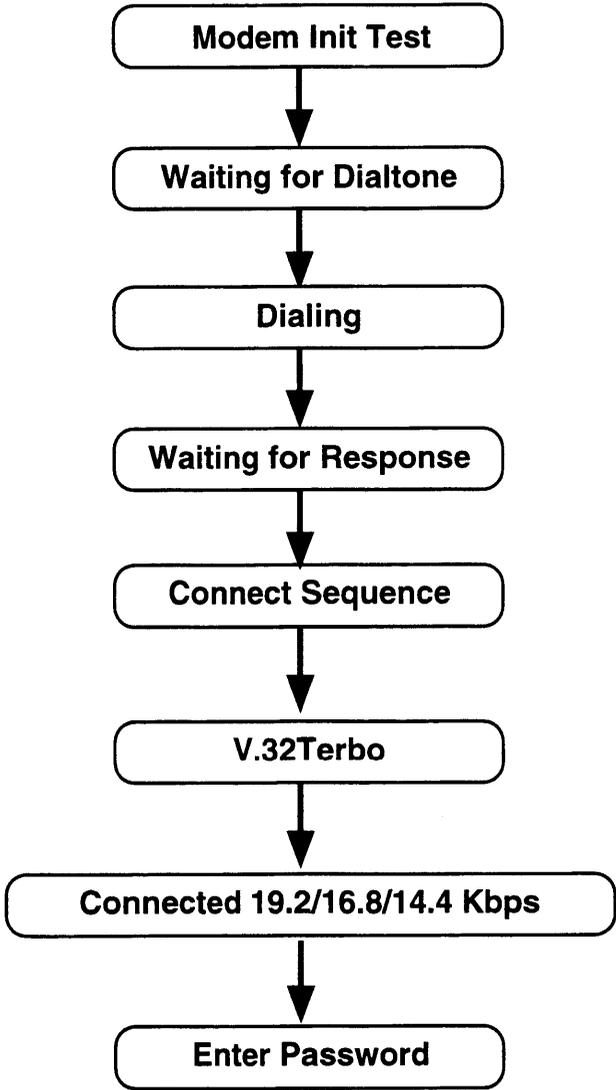

Figure 2-1. Connect Sequence for the Remote Module
2. At this point, the Remote Module establishes the connection with the Switch Module. Figure 2-1 shows the sequence of messages that appear on the telephone display during connection of the Extender system.